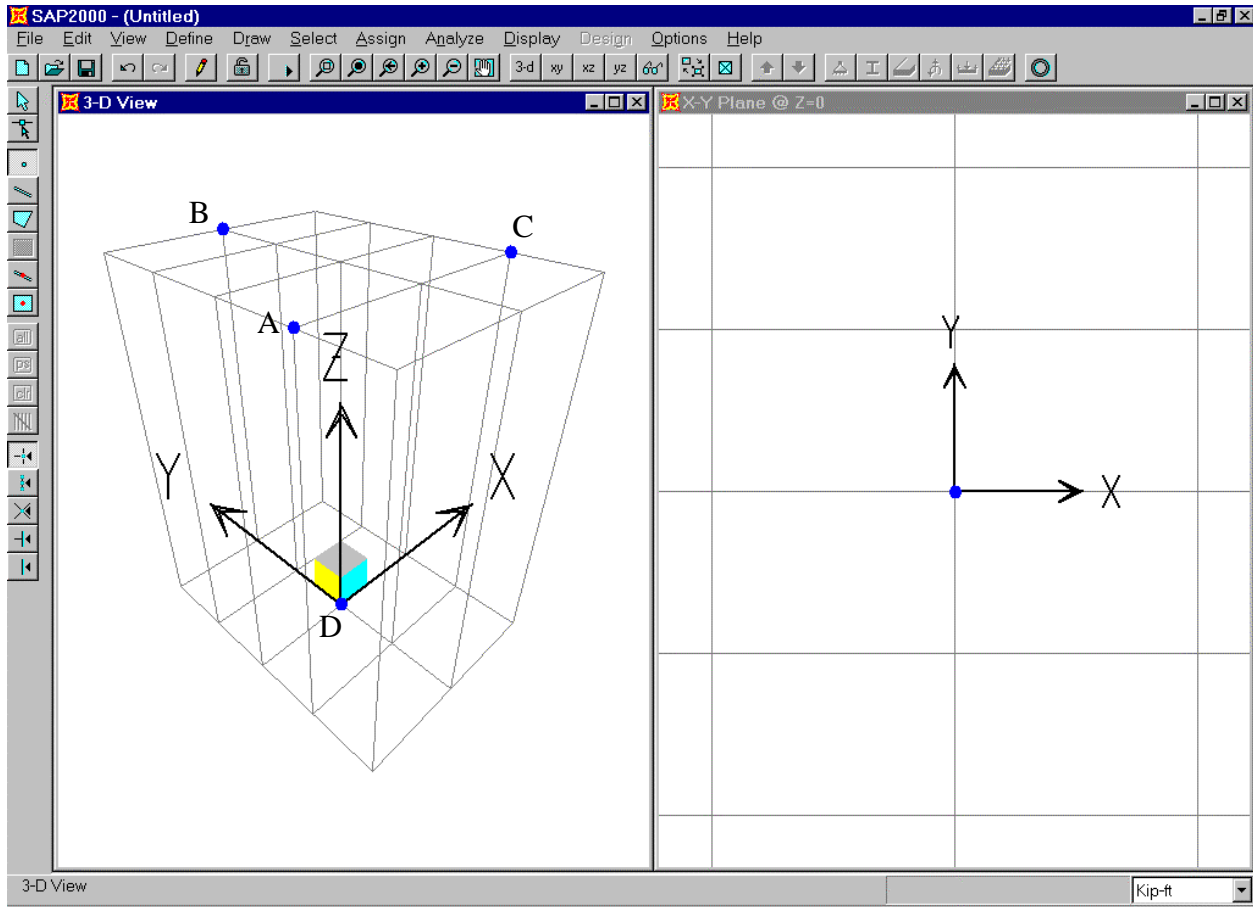

Figure E-2: Screen View After Joints Have Been Entered
11. Click in the window titled 3-D View to activate it. The screen now appears as shown in Figure E-2.
13. Click on the point labeled “D” and then the point labeled “A” in Figure E-2 and press the Enter key on the keyboard to draw the first frame (cable) element.
14. Click on the point labeled “D” and then the point labeled “B” in Figure E-2 and press the Enter key on the keyboard to draw the next frame (cable) element.
15. Click on the point labeled “D” and then the point labeled “C” in Figure E-2 and press the Enter key on the keyboard to draw the last frame (cable) element.
17. Click on the joints identified as A, B and C in Figure E-2 to select them.
22. Select the joint identified as D in Figure E-2 by clicking on it.
25. Select the joint identified as D in Figure E-2 by clicking on it.